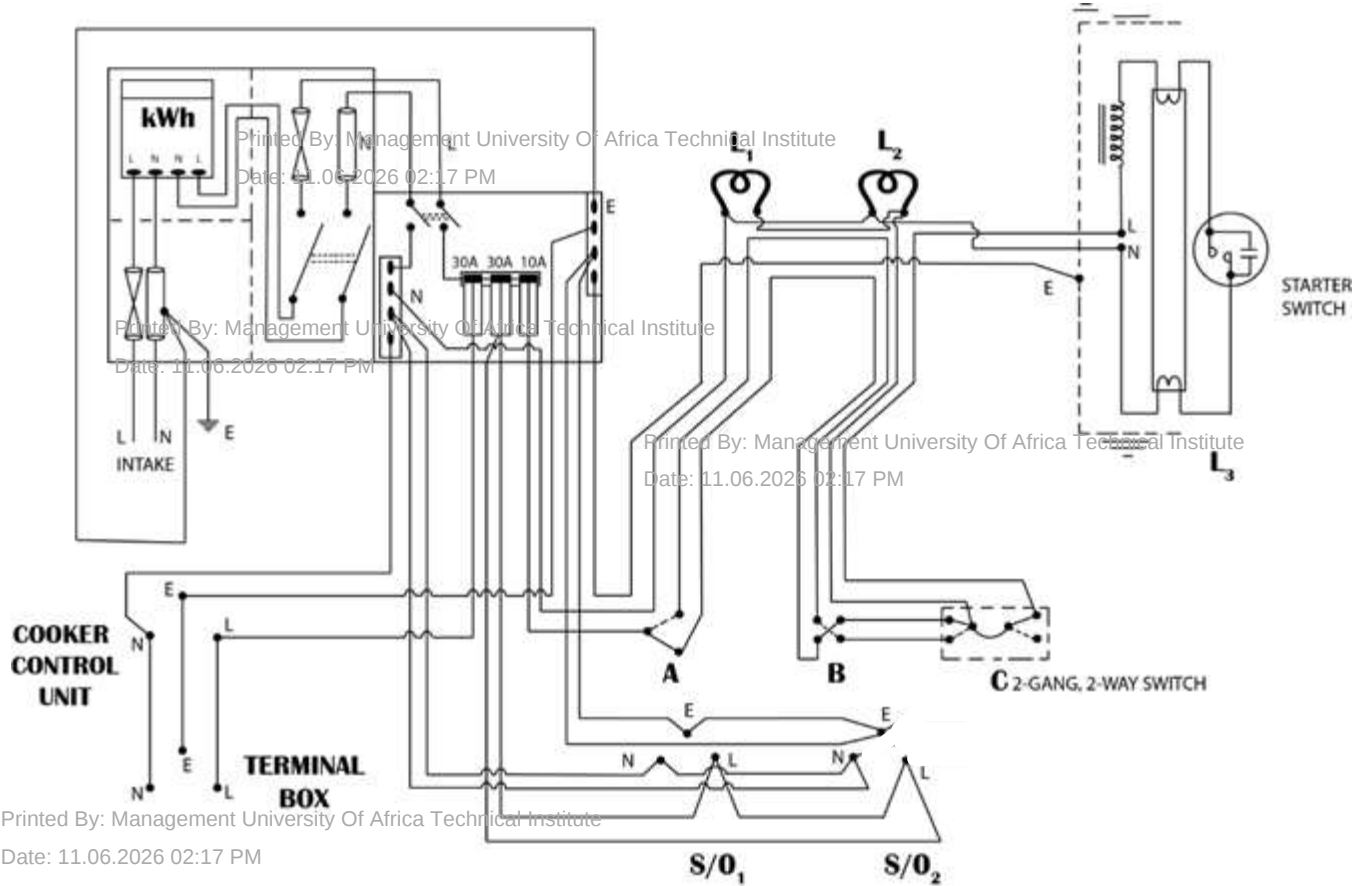

Figure 1
7.	Drew the wiring diagram as shown in Figure 1